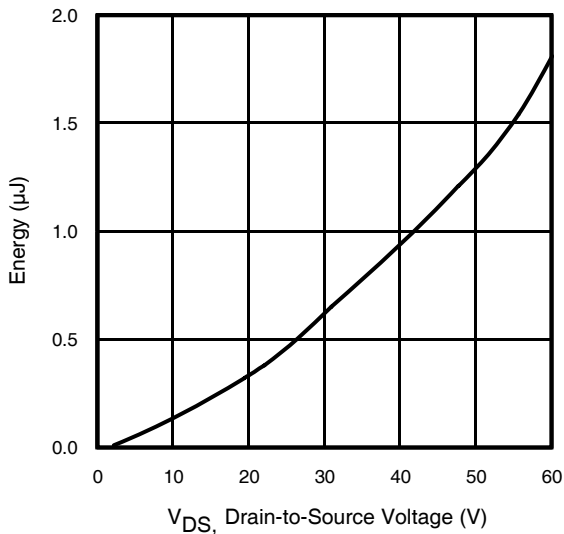

Fig 11. Typical C_{OSS} Stored Energy
| C _{oss} eff. (ER) | Effective Output Capacitance (Energy Related) | — | 1040 | — | | V _{GS} = 0V, V _{DS} = 0V to 48V ⑦, See Fig.11 |